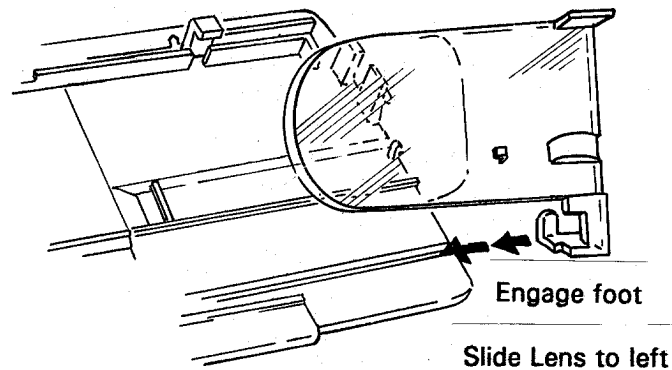

Fig. 11 Reassembling the Close Up Lens
11. Wearing finger cots or lintless gloves to keep the Lens elements free of smudges, first engage the “foot” at the bottom right corner of the Lens with the Panel (see Fig. 11). Then slide the Lens to the left slightly and gently press down until it engages in its guides. The Lens should slide back and forth freely.